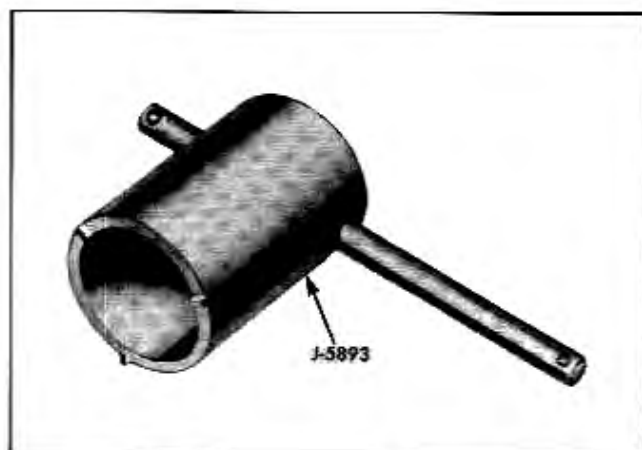

Fig. 12-53 Ignition Switch Ferrule Spanner
2. Remove ignition switch ferrule by unscrewing with special spanner J-5893 (Fig. 12-53).